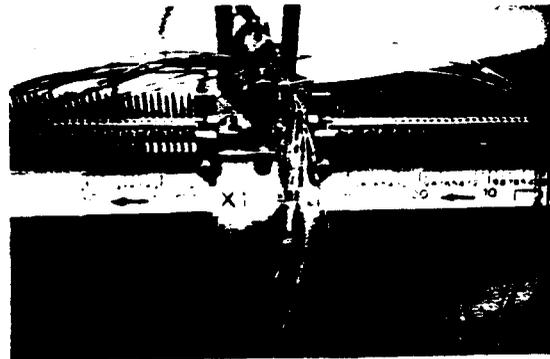

FIG. 50 WIRING WITH X1 PLATE
5.223 When wiring the X1 pattern, start with position 1 and place the wires in color coded order, right to left. After completing the first mandrel, move to position 64 and continue wiring right to left. See Fig. 50.